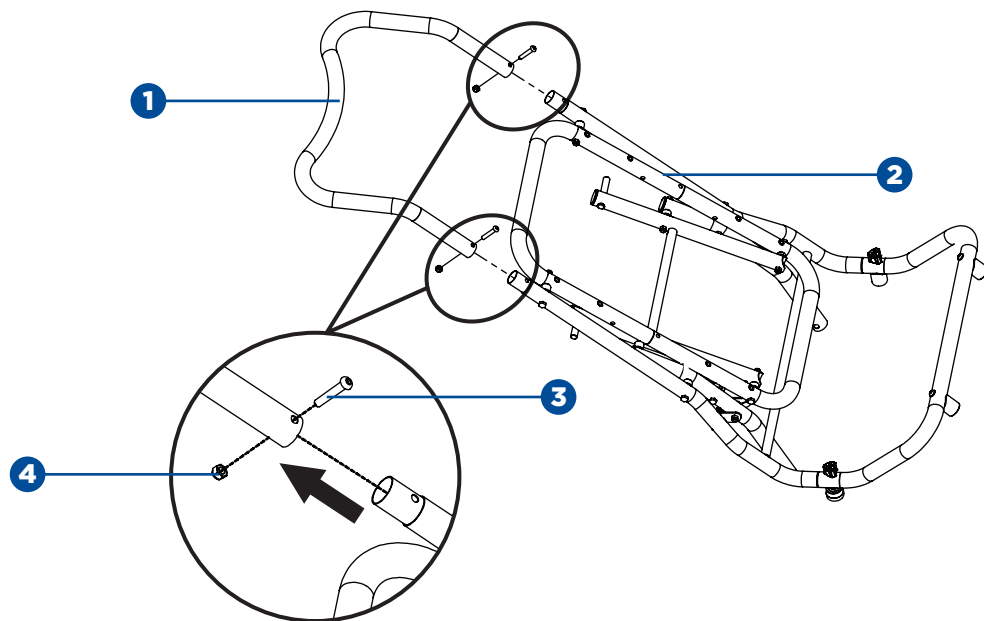

Fig. 2
**ATTACH HANDLE ASSEMBLY (Fig. 2)**
- Attach the tubes of the handle assembly (1) with the corresponding tubes of the stand assembly (2) and align the holes.
- Insert a flat round head screw M8 x 45 (3) through the hole and tighten with a locking nut M8 (4).